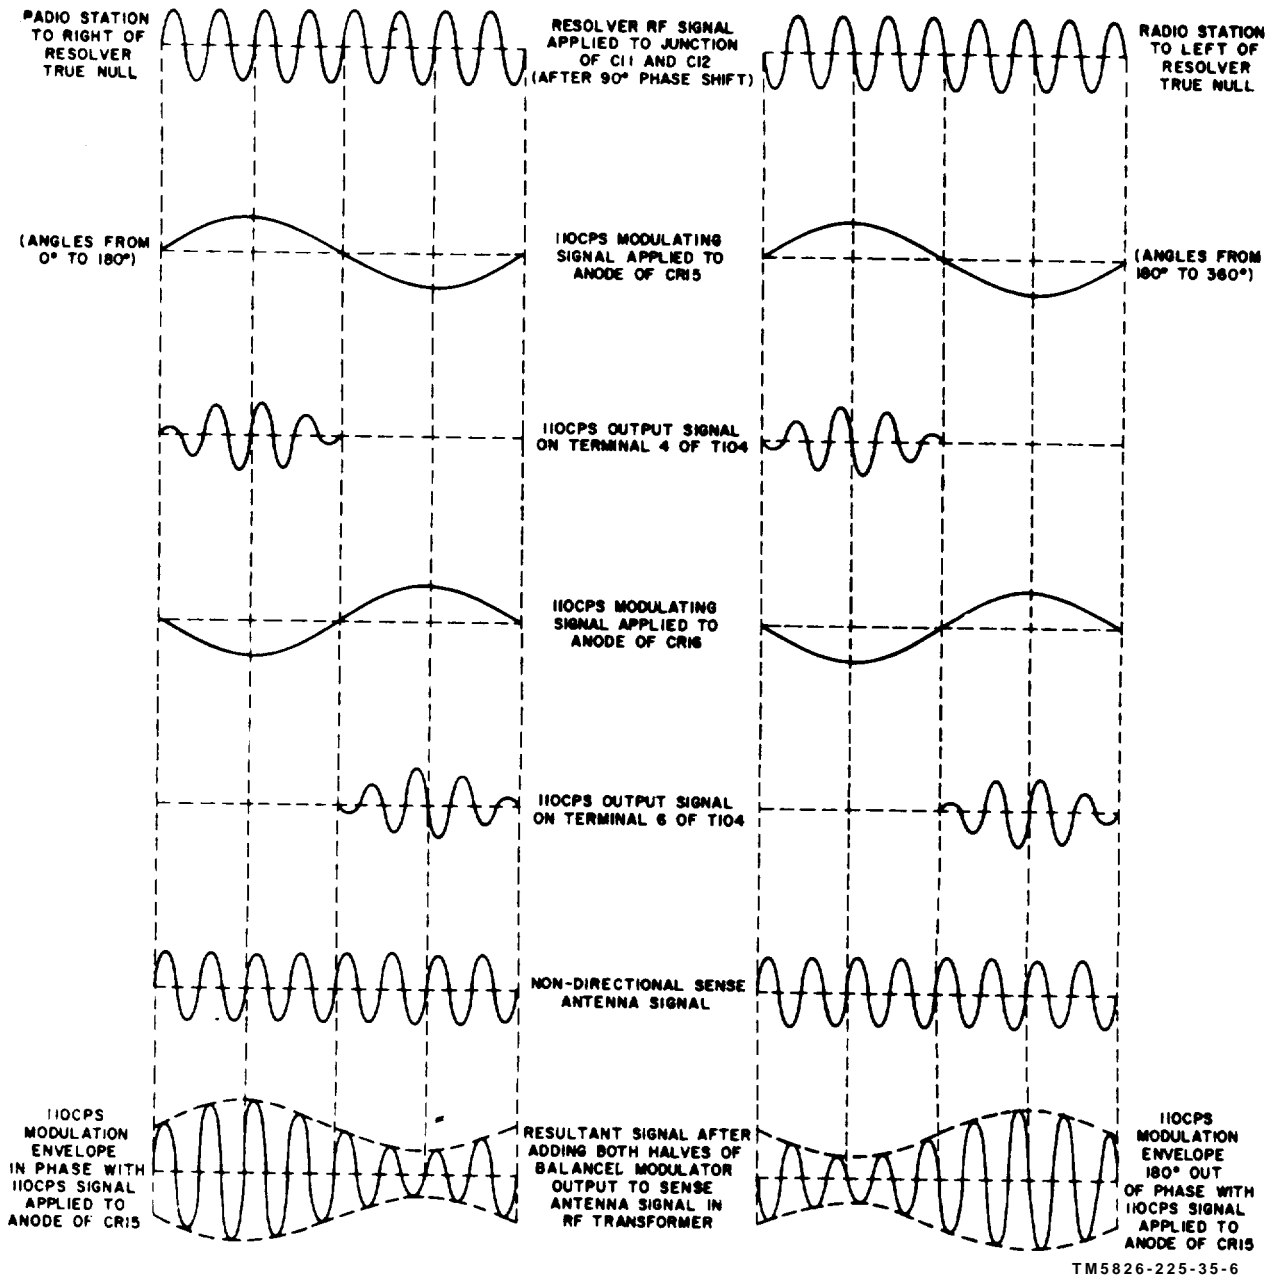

Figure 1-3. Balanced modulator waveforms.
d. The waveforms in figure 1-3 shows signal polarities at the input and output of CR15 and CR16 when the radio station RF signals source (from sense antenna) is either to the right or left of the resolver apparent null. The 110 cps on terminal 4 of T104 (extreme left in fig. 1-3) appears for one positive cycle of resolver RF output signal for a radio station RF signal source from 0° to 180° (to right) away from the resolver true null. The 110-cps signal on terminal 4 of T104 shown to the right in figure 1-3, appears 180° later for a radio station RF source from 180° to 360° away from (to the left) of resolver null.
e. Combining the variable phase 110-cps sidebands with a nondirectional sense antenna fixed phase signal, yields the lower waveforms shown in figure 1-3. It will be observed that for a radio station RF signal source to the right of resolver null, the resolver and sense antenna RF signals are in phase. For a radio station to the left of resolver null, the resolver and sense antenna signals are 180° out-of-phase. The output of diode CR15 (fig. 5-4) into the secondary of T104 is positive going when the sense antenna signal is positive, and negative when the latter is negative. Hence the sense antenna and 110-cps signals add to yield an outward 110-cps
modulation envelope as shown in figure 1-3. The output of diode CR16 into the secondary of T104 is opposite in phase to the sense antenna signal and subtracts to yield an inward 110-cps modulation envelope. Ultimately, at the output of the servo amplifier furnishing power for driving a two-phase servomotor geared to the resolver, the phase relationship of the 110-cps modulation envelope will determine which direction the resolver will rotate to a null.